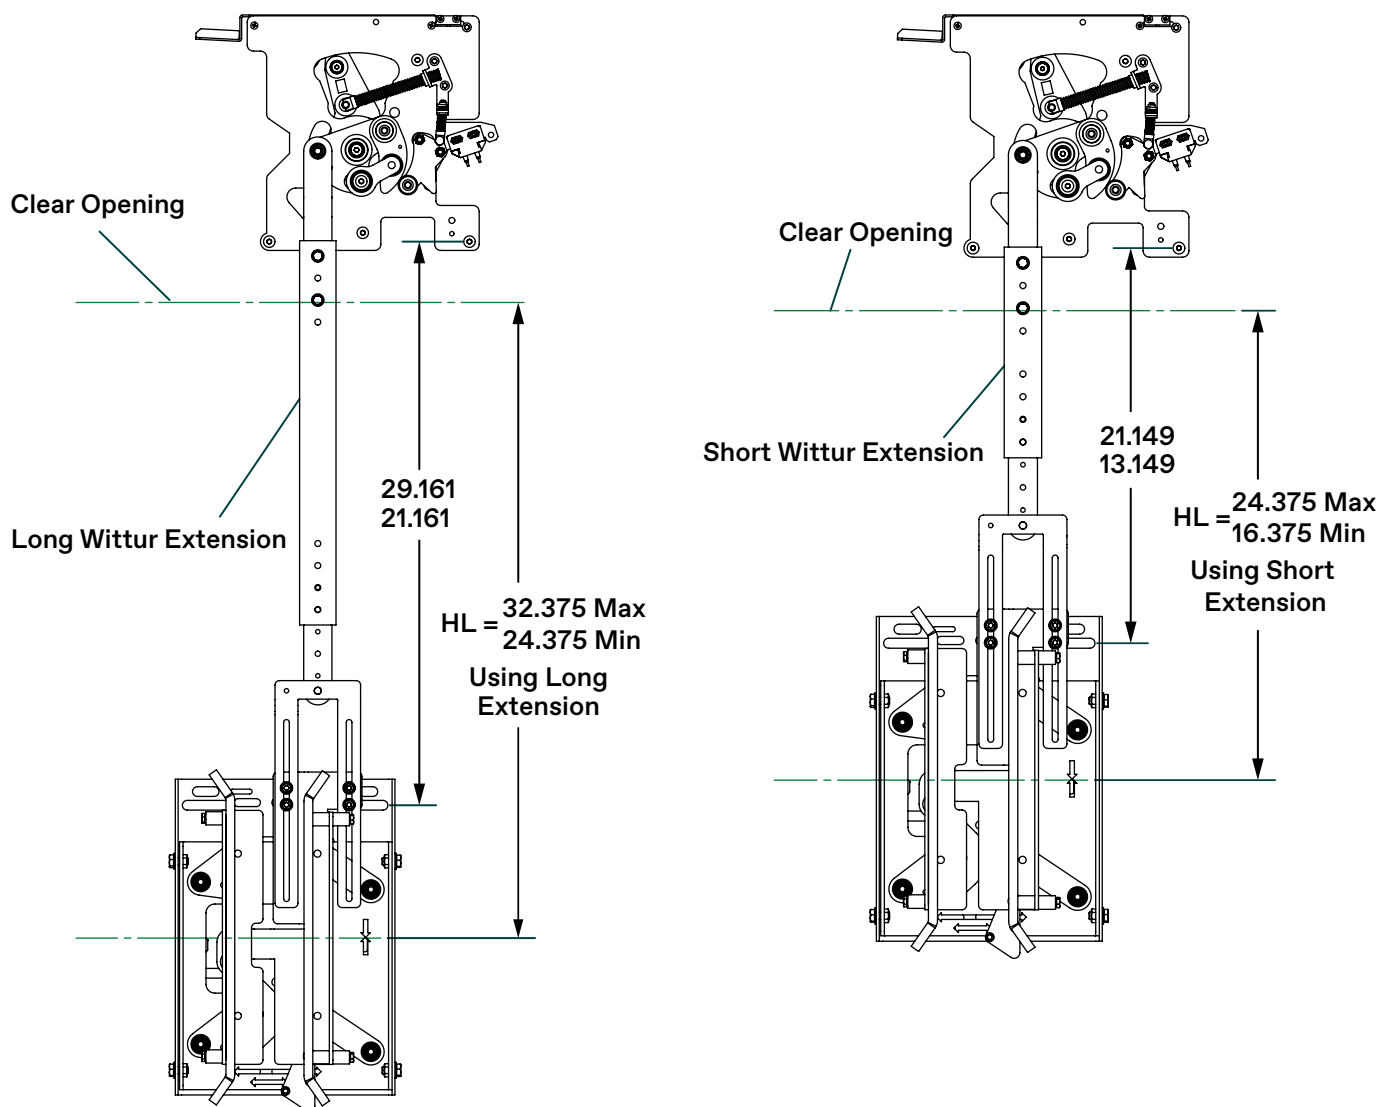
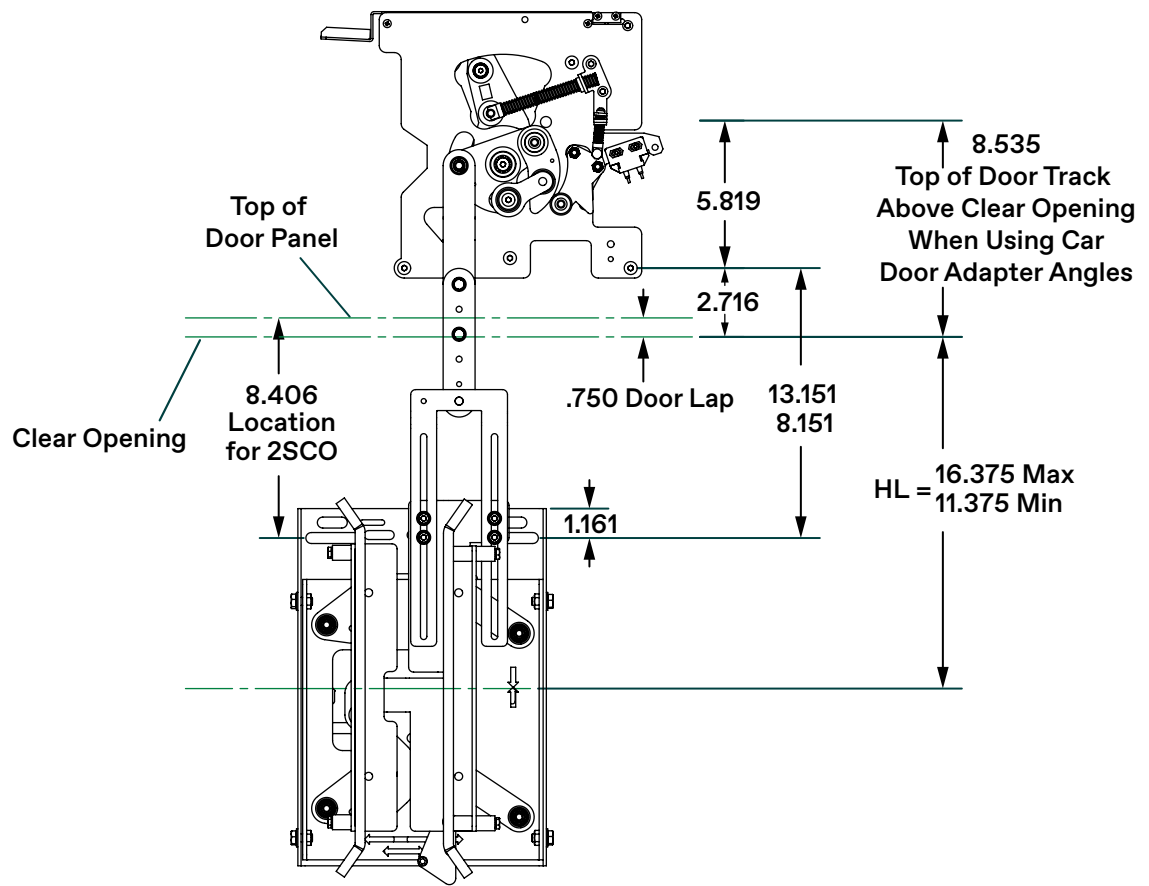

Figure 46 - Adjust Clutch and Linkage - Short and Long Wittur Extensions
Figure 47 - Adjust Clutch and Linkage
14. Adjust clutch and clutch actuator linkage. See Figure 46 below and Figure 47 on page 52.